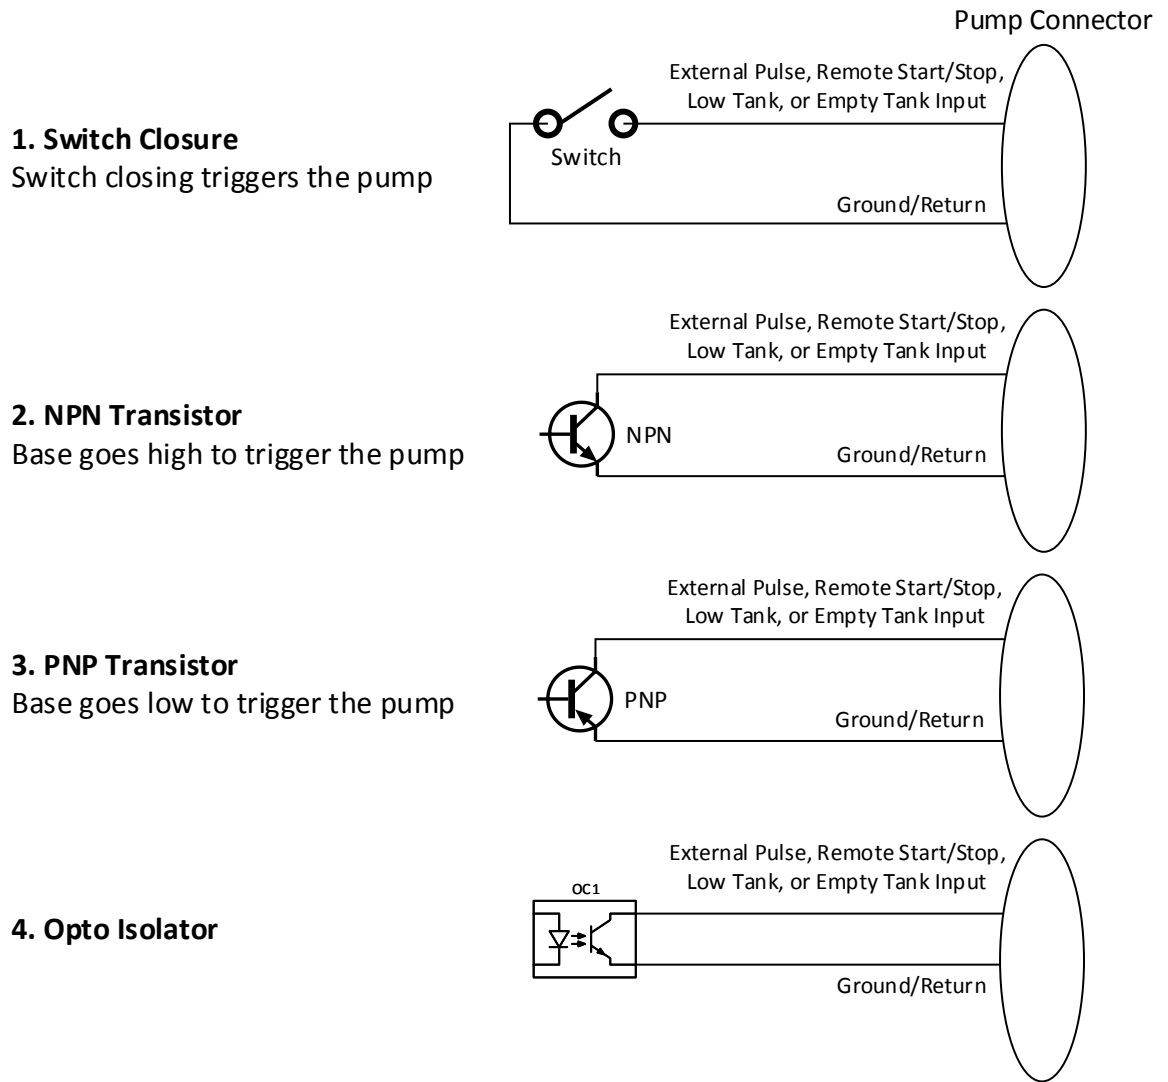

Figure 14: Methods of Externally Triggering the Pump
In External Pulse Mode, the pump relies on an incoming digital pulse to set the flow rate based on user settings. This allows for the pump speed to be set remotely by a controller such as the Liquitron DM7000, a PLC/SCADA system, or a flowmeter to dose a proportional amount of chemical to the process fluid. The pump will accumulate up to 500 pulses and continue to run until the demanded chemical is delivered. The External Pulse Signal Pin 3 is normally 24 VDC and must be connected to the Ground/Return Pin 2 to trigger a pulse. The switch or transistor used must be capable of switching 24 VDC at 15 mA. The minimum time in the low impedance state (ON) is configurable between 1 msec and 60 msec. Refer to Figure 14 for methods of externally triggering the pump.
with the Remote Start/Stop Input OPEN. Once the Remote Start/Stop Input is CLOSED, the pump will enter Remote Mode and require the Remote Start/Stop Input to be CLOSED to run. When the input is OPENED, the pump will stop and display a  **Remote Start/Stop Icon** on the Home Screen. When the Remote Start/Stop Input is CLOSED again, the pump will resume operation. The Remote Start/Stop Signal Pin 1 is normally 24 VDC and must be connected to the Ground/Return Pin 2 to indicate a pulse. The switch or transistor used must be capable of switching 24 VDC at 15 mA. Refer to Figure 14 for methods of externally triggering the pump.